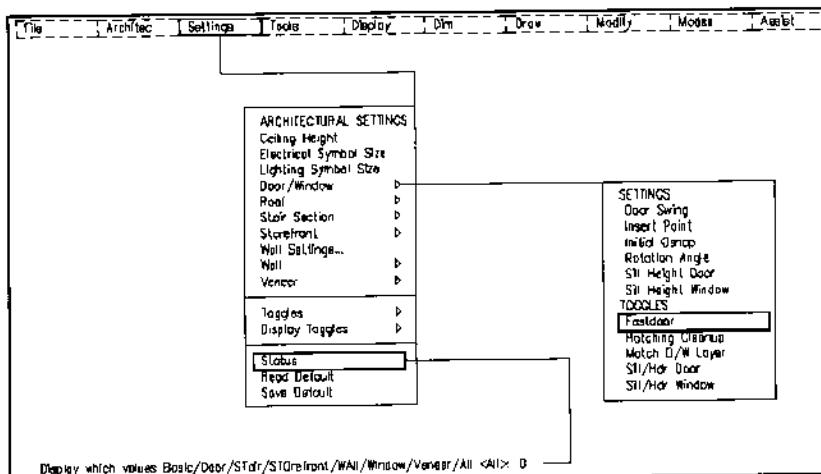

Figure 5.
- Select Fastdoor from Status or Door/Window under the Settings pull-down menu as shown in Figure 5.